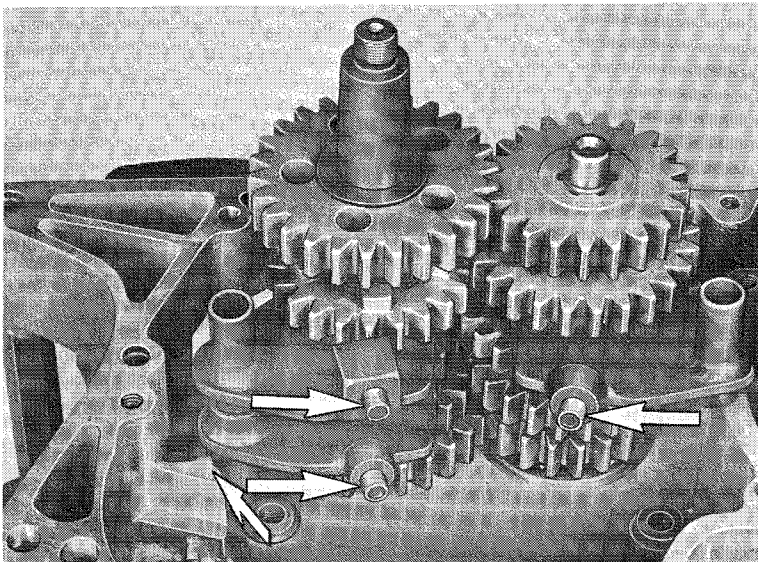

Fig. 15
15. Move the shifting forks to the left (rearwards) in order to facilitate assembly of the shifting drum. See fig. 15
NOTE: Ensure that all rollers are in position. See Fig. 15.